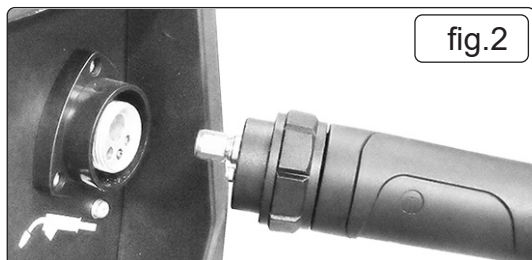

fig.2
6.2.1. The welding set is fitted with a "Euro Connection" quick release torch. Line up the pins in the torch connector with the appropriate holes in the socket on the front panel connector (fig.2), push in, engage and tighten the locking nut (fig.3).